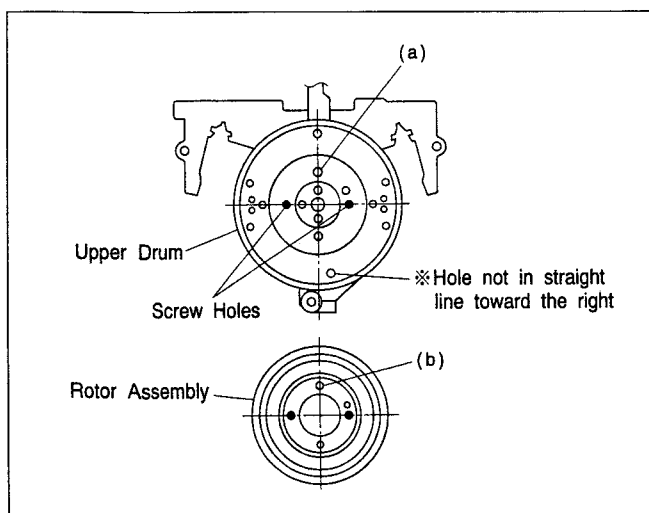

Fig. 2-3-4
② How to reassemble
- (1) Align the upper drum assembly and rotor assembly phase as indicated in Fig. 2-3-4.